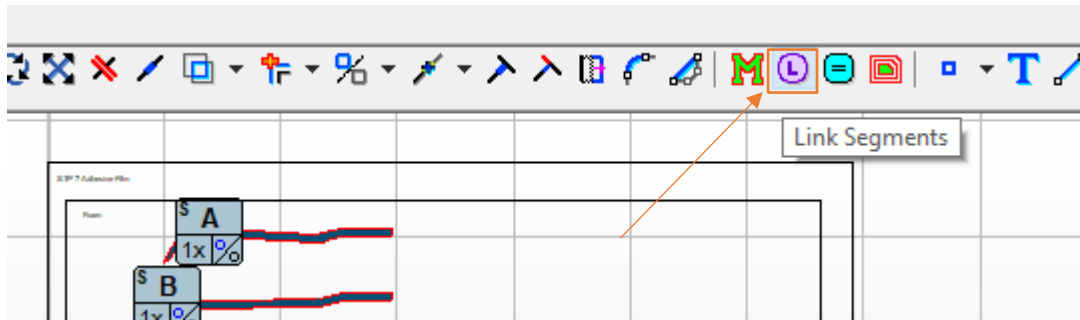

Figure 301
97. Select the Link tool in our main tool bar  (Figure 301).